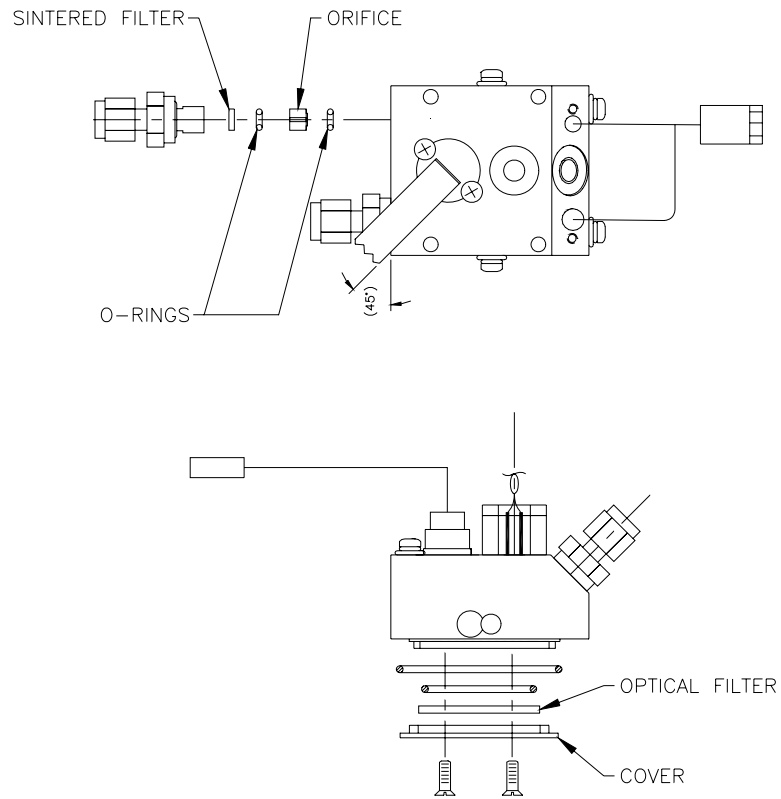

Figure 16. Reaction Cell Cleaning
3. Refer to Figure 16 and remove the optical filter from the cell.
5. Refer to Figure 16 and remove and replace the sintered filter from under the O₃ inlet fitting. Be sure to use new O-rings. If desired the orifice can be removed and cleaned or replaced.